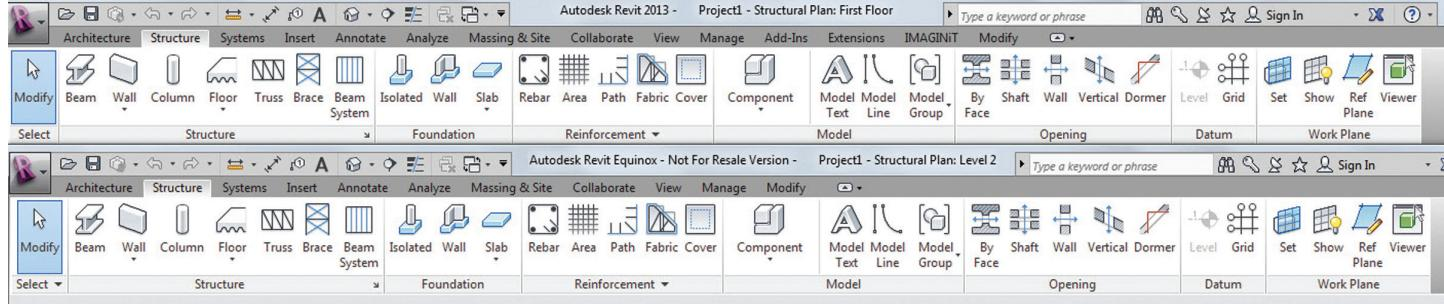

Figure 1: Revit ribbon comparison
**F**rom 10,000 feet, if you look at the Autodesk® Revit® Structure ribbon you will not see any differences between Revit Structure 2013 and 2014 as displayed in Figure 1 below.